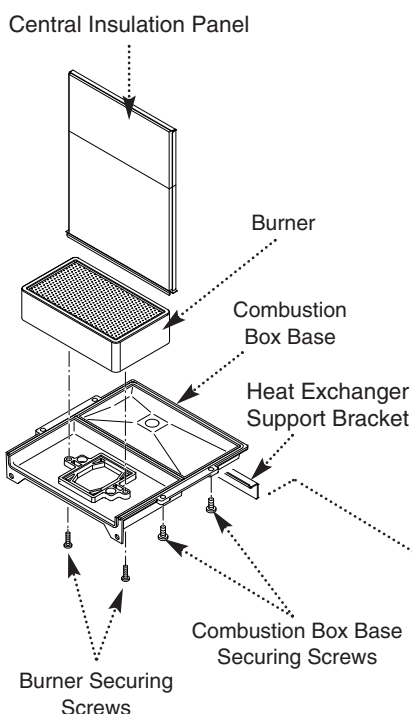

Fig. 44
**NOTE:** The burner skin is fragile - handle with care. Clean and if necessary replace the burner (Fig. 44) (see note above).
- h) Loosen the two screws retaining the heat exchanger support bracket and slide to the left to remove (Fig. 44).
- j) Lower the central insulation panel and check condition (Fig. 44). Replace the lower insulation pad if necessary.